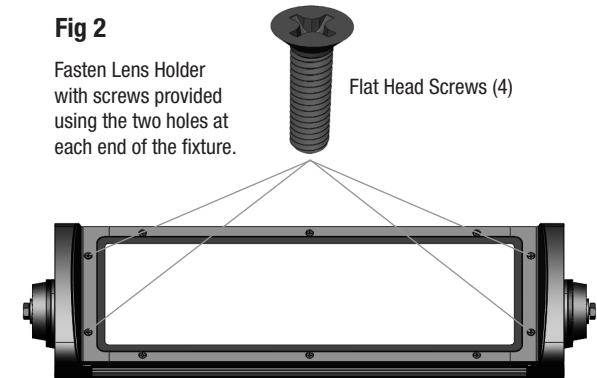

Fig 4
- 3) Then place the Half Visor (HV) on top of the Rock Guard (RG). **Fig 4**
- 4) Align the six screw holes on the Half Visor with the screw holes on the Louver and Lens Holder then fasten them down together onto the Lazer fixture using (6) pan head screws provided. Tighten evenly alternating opposite sides. **Fig 4**